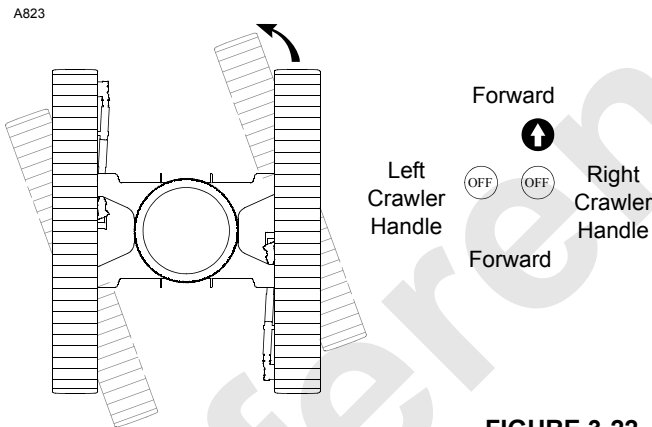

FIGURE 3-22
- Avoid sharp turns (Figure 3-22) if possible.
- 8. To make a SHARP LEFT TURN (Figure 3-22), move right crawler handle to front from off and leave left crawler handle in off; crane will pivot about left crawler.